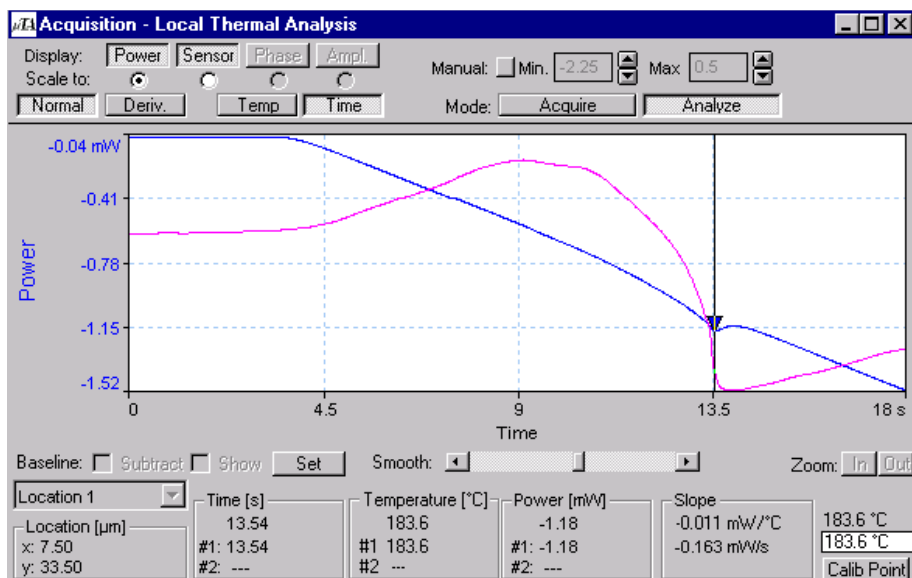

Figure 4.5
- a. Click on the **Time** and **Analyze** buttons on the **Acquisition—Local Thermal Analysis** window, shown in Figure 4.5 on the next page.